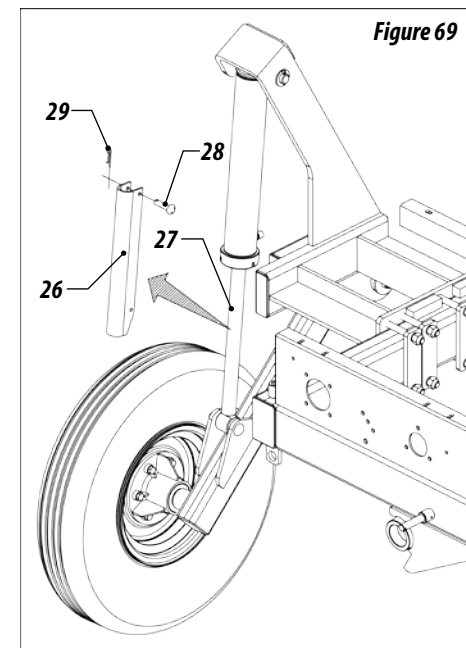

Figure 69
16 - Before transporting the seed drill, put the latch (26) on the transport wheelset piston rod (27) through the pin(28) and retaining pin (29) according to figure 69.